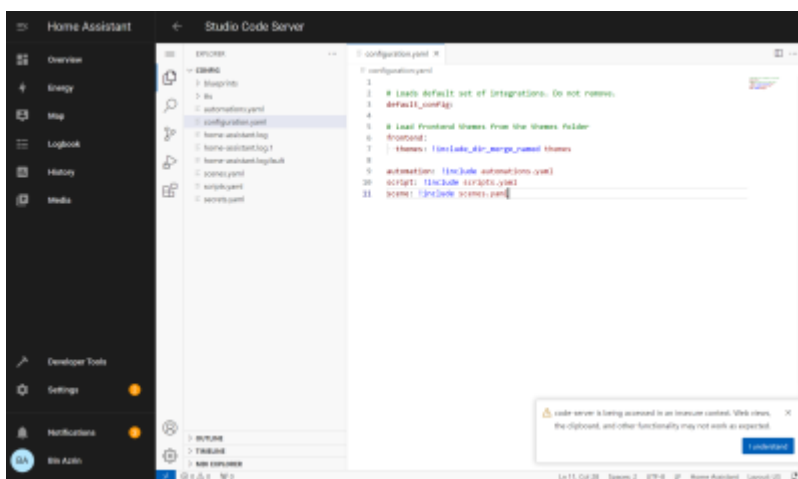

Figure 23: “Configuration.yaml” with the help of Studio Code Server to upload the code. Source: own image – Ainul Danish
- **Uploading codes:** After MQTT being set, uploaded was the relative codes into the Home Assistant for ESP32 Cam to read and send the data. Stated here are the Home Assistant configurations and finding the “configuration.yaml” file. One of the best ways is to download the “Studio Code Server” add-on from Home Assistant, as it helps to navigate around Home Assistant such as searching for files much easier. This leads to the configuration files (Fig 23). Unfortunately, development with Home Assistant was put to a halt here, as the ESP32 CAM wasn't able to connect to the laptop with Home Assistant installed.